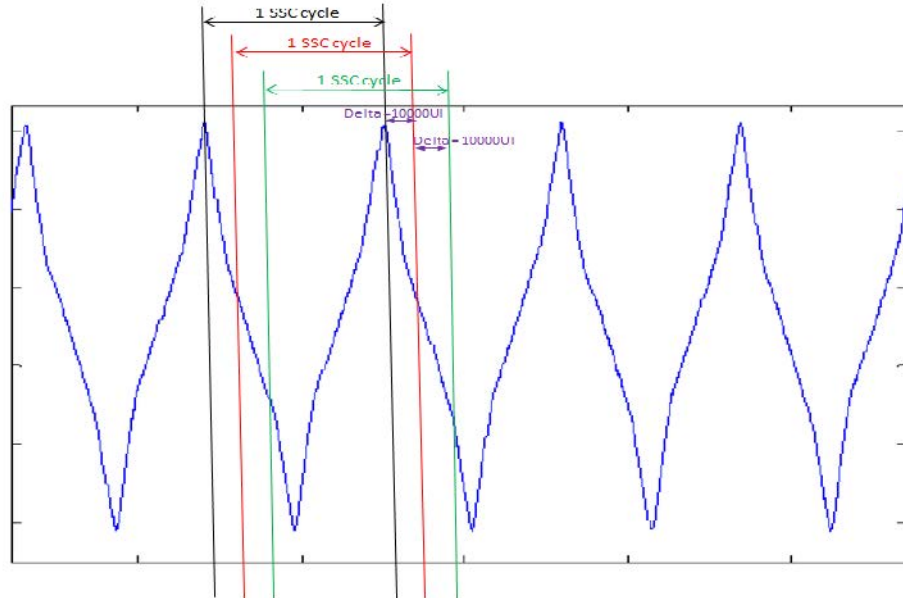

Figure 112 Measurement of UI\_MEAN over at least 10 SSC Cycles
- 4 Measure UI\_MEAN over different windows that uniformly cover the Oscilloscope capture for at least 300ms (more than 10 SSC Cycles) with 10000 UI window jumps. See Figure 112.